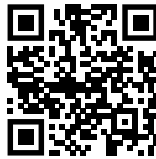

Fig. 115
- ▶ Öppna Liebherr SmartMonitoring Dashboard. (se Fig. 115)